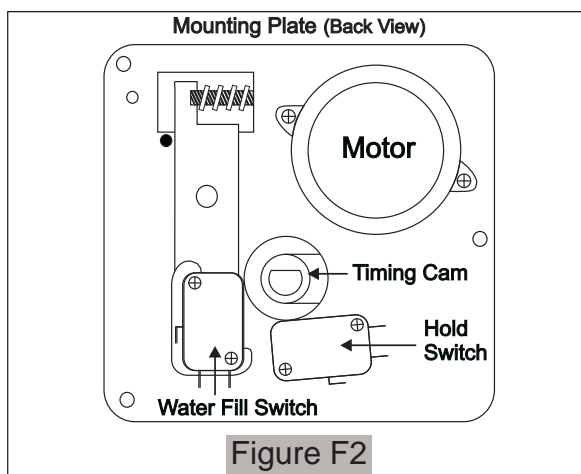

Figure F2
3. **Shut-off Switch** - Stops Ice Maker operation when the Storage Container is full of Ice. The switch is opened after the Sensing Arm is raised to its most upright position. The switch is mounted to the top right wall of the Ice Maker Support. (Not shown in Figure F2)